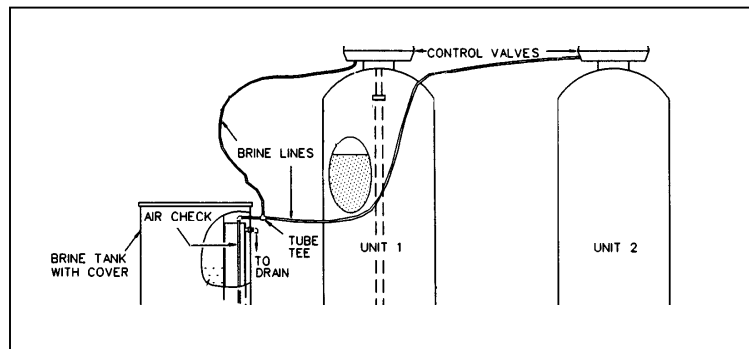

Figure 2-9: Brine Tubing Connection
- K. Cut the supplied brine tubing into (3) 6' pieces. Run one piece between the air check assembly on the brine tank to the supplied tubing tee and the other two pieces between the tee and each valve's brine inlet connection. Refer to figure 2-9.